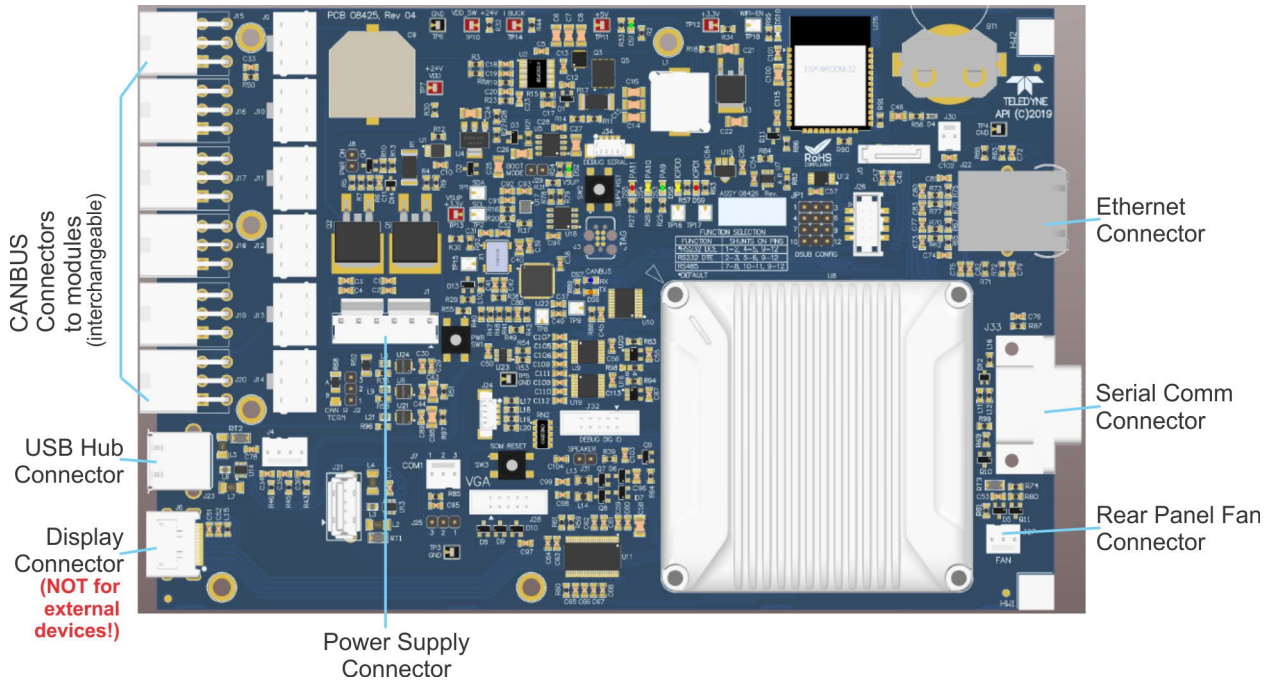

Figure 5-12. Mainboard Connectors
- Last, check that the cable running from the power supply is properly seated in its connector at J1 on the Mainboard (Figure 5-12), and use a voltmeter to check TP7 on the Mainboard (Figure 5-6).